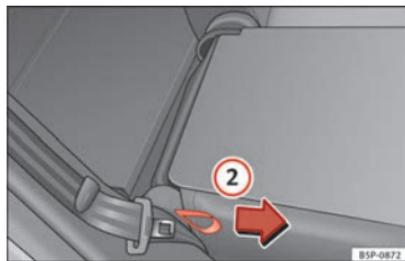

Fig. 93 Lifting the seat backrests
- Pull the loop on the side of the seat ⇒ Fig. 93 ② in the direction of the arrow and lift the seat backrest into position.